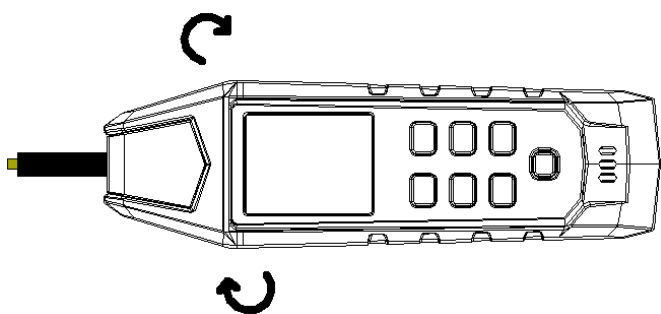
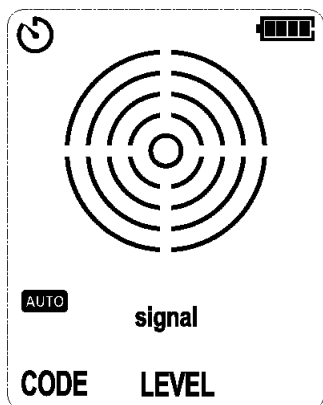

Figure 7.1.3a Align to the sensor slot
Figure 7.1.3b No Signal Detected
3. To obtain a best effect when tracking energized conductor, please align the dot screen printing (on the top of the sensor) to the direction of the conductor, as shown in Figure 7.1.3a. If not aligned properly, signal may not be detected or the code may be wrong. To check the direction of the cable, please rotate the receiver for 90 degrees regularly, as shown in Figures 7.1.3b and 7.1.3c. The signal strength reaches its maximum when the cable is aligned with the dot screen printing. According to the differences of detected signals, the receiver automatically detects if the cable is energized (“⚡”), which will be displayed on the LCD. No need to perform manual setting.